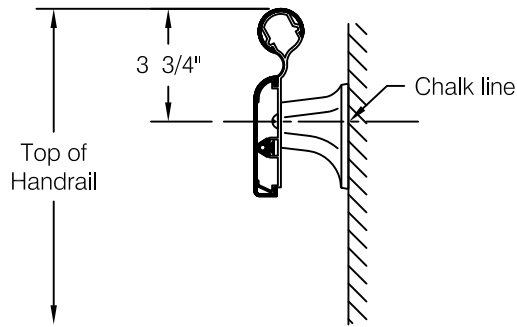

fig 1
Step 1: Determine top of handrail height and snap a chalk line 3 3/4" below for centerline of mounting hardware, see **fig 1**.